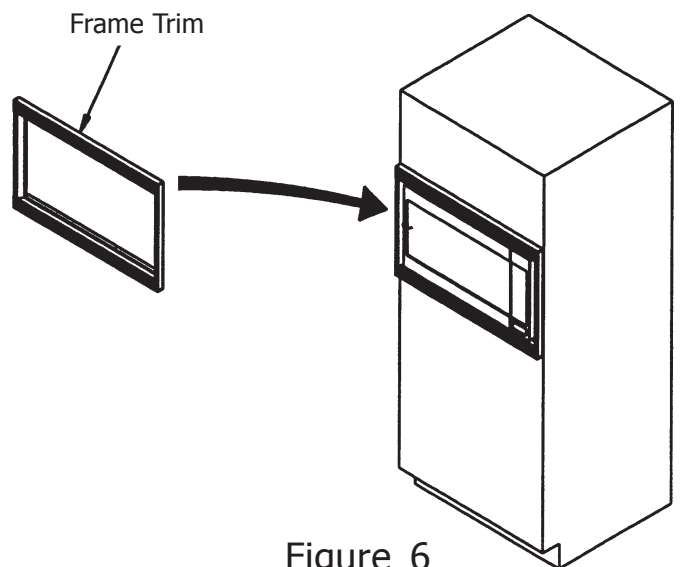

Figure 6
11. Install both vertical trim brackets on the cabinet using three (3) #8 x $\frac{3}{8}$ Type A screws on each side. The flanges on the ends of the brackets should be inside the cabinet.
12. Snap frame trim into the trim brackets (Figure 6). The four (4) ball studs on the back of the frame snap into the four (4) spring clips on the trim brackets. Tip: Place screwdriver behind spring clip to support bracket.